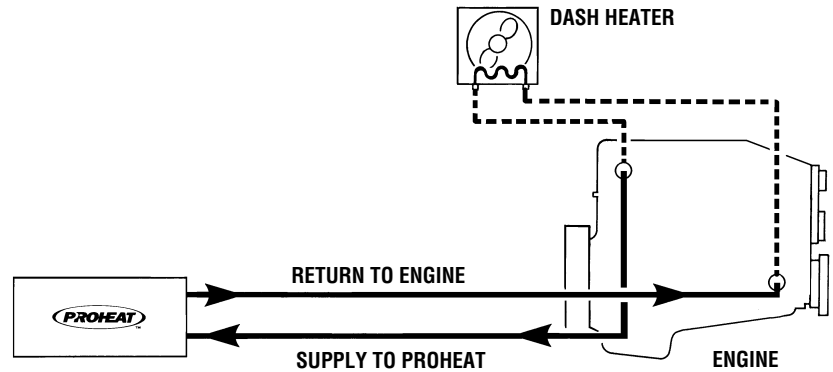
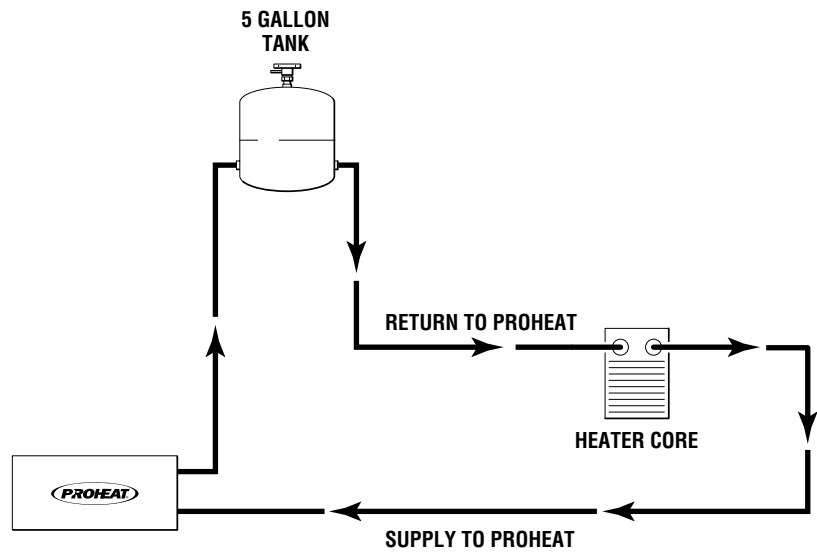

Figure 2-27. Engine Heat or Supplemental Heat.
Figure 2-30. Cargo Heat only.
3. Plumb the system as per figure 2-27 or figure 2-30.